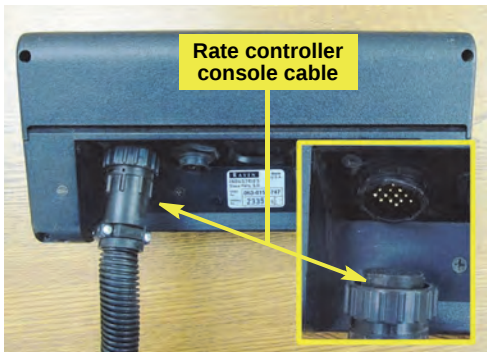

Figure 1b-i: Disconnecting controller console cable
- Disconnect the console cable from the back of the existing rate controller (Figure 1b-i). Connect the console cable to interface cable **A** (Figure 1b-ii).